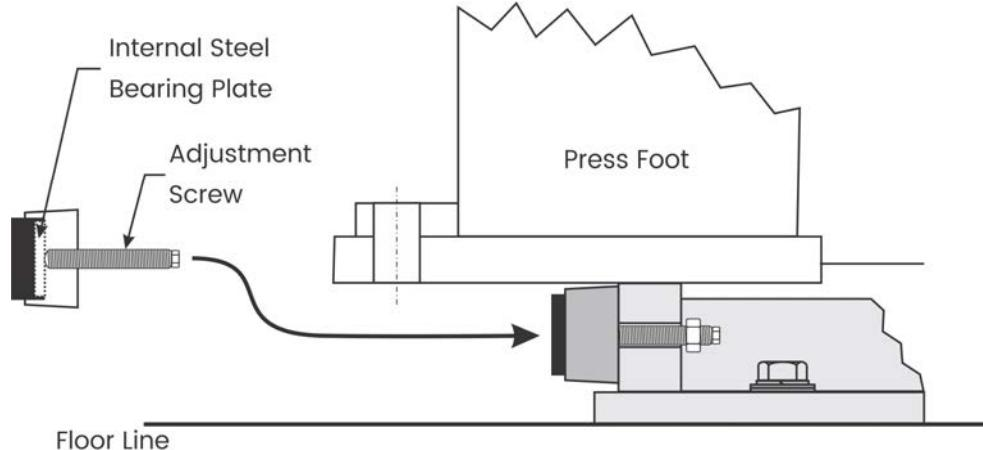

Figure 5
14. Thread the adjustment screw into the isolator housing until it bottoms on the internal steel bearing plate. See Figure 5.